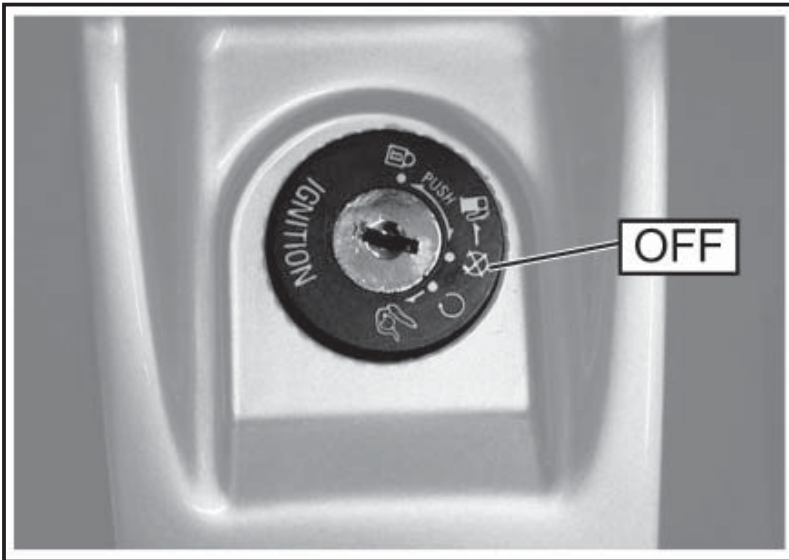

Fig. 01
5.5 STOPPING THE ENGINE (Fig. 01)